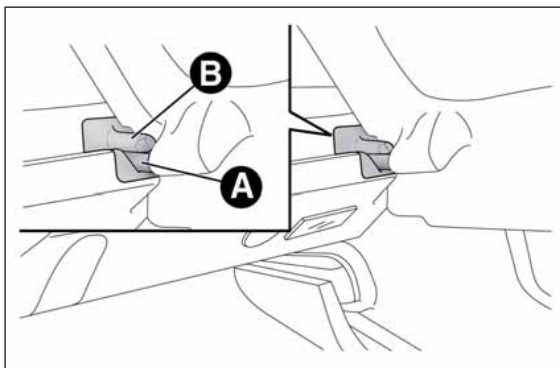

fig. 65
- free the pins A fig. 65 on the outside of the shelf from the housings B in the side mountings, then remove the parcel shelf;